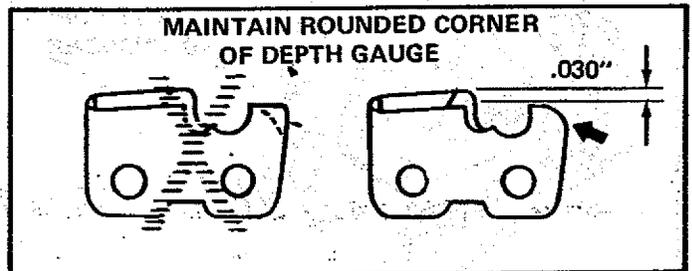

Figure 40
- Maintain rounded front corner of depth gauge with a flat file. Figure 40.